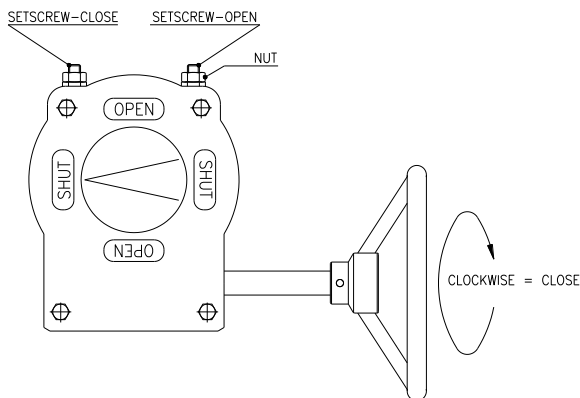

Figure 10: left handed gearbox setscrew adjustment
4. When the fully closed position cannot be achieved, loosen the setscrew-close (see figure 10) by turning them counterclockwise. Continue turning the hand wheel until valve is totally closed.